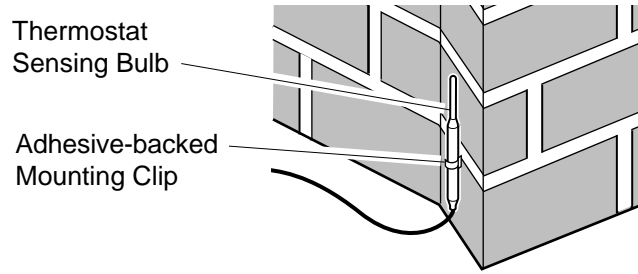

Figure 29 - Locating Thermostat Sensing Bulb on Masonry Fireplace
4. The thermostat sensing bulb may be located to the lower right front side of fireplace. Determine location of sensing bulb, but do not mount sensing bulb until step 5. If you have a masonry fireplace, see Figure 29 for location.
If you have a factory-built metal fireplace, see Figure 29 for location.